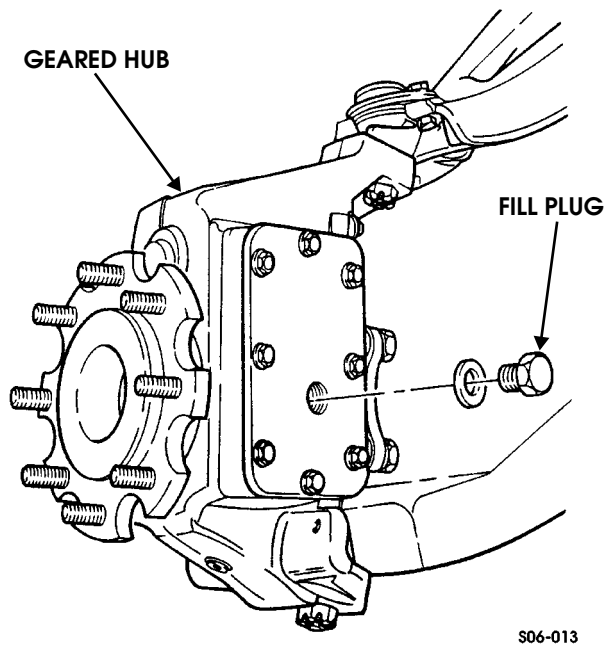

Figure 9-38: Geared Hub Fill Plug Location
17. Remove fill plug and washer from geared hub (Figure 9-38).
18. Remove fill plug and washer from geared hub (Figure 9-38).